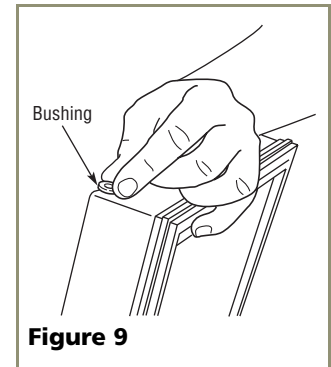

Figure 9
6. Relocate plastic spacer/bushing on bottom of door to opposite side, and place door on bottom hinge pin. See **Figure 9**. Clean out bushing hole in door bottom with a screwdriver if necessary.